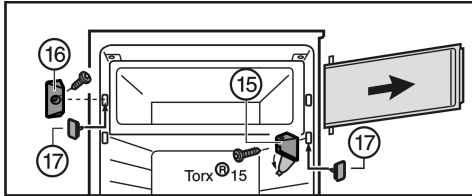

Fig. 7
- ▶ Fold away cover of turn hinge *Fig. 7 (15)*.
- ▶ Unscrew turn hinge *Fig. 7 (15)* together with compartment door.
- ▶ Unscrew closing element *Fig. 7 (16)*.
- ▶ Close the vacated holes with the accompanying stoppers *Fig. 7 (17)*.